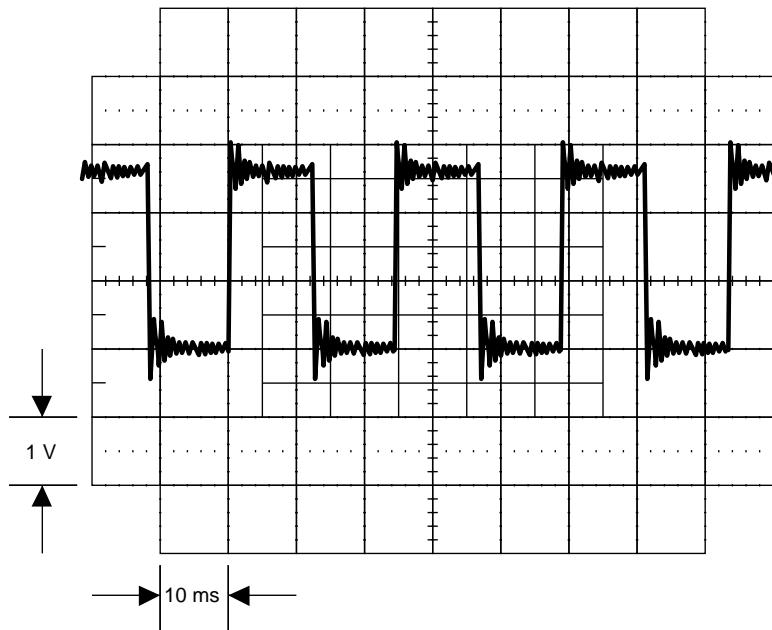

Figure 5-13. Waveform at TP12
3. Check the 2 MHZ REF. Set the 5700A to 2V at 1 kHz, operate. Connect an oscilloscope to TP12 and verify it displays a 2 MHz signal similar to that shown in Figure 5-13. If a failure is detected, check U14A and U14B.